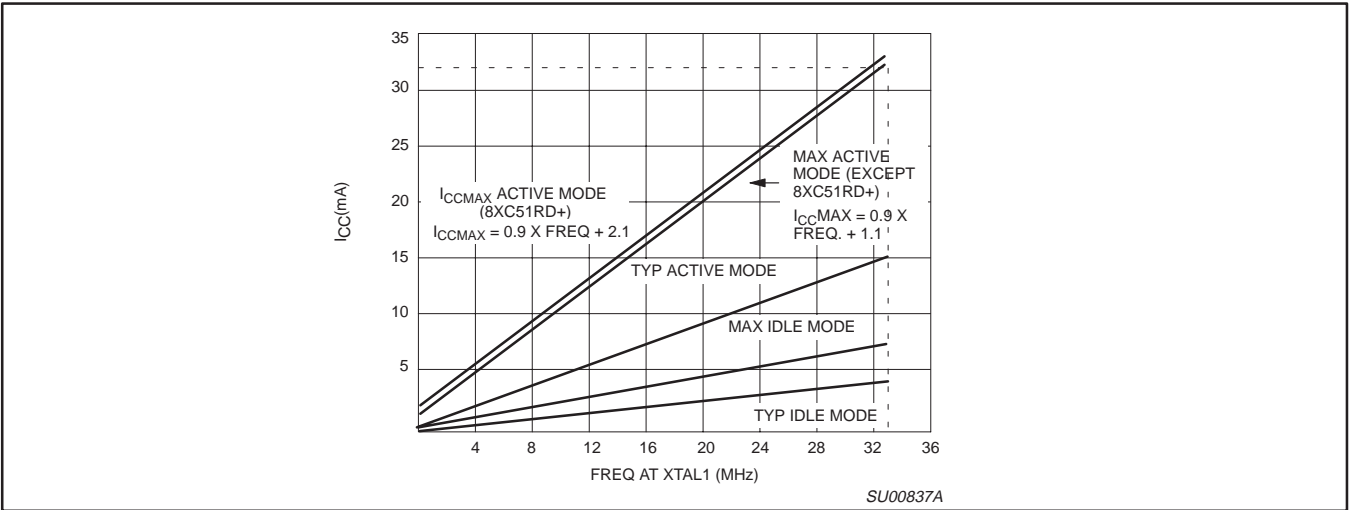
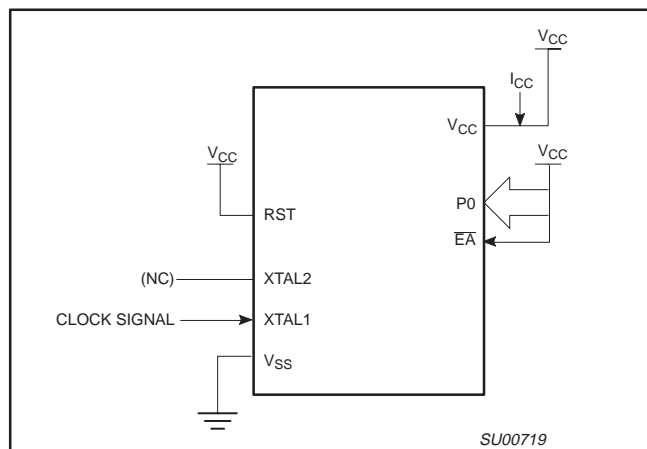

Figure 36. I_{CC} vs. FREQ
Figure 37. I_{CC} Test Condition, Active Mode
- See Figures 37 through 40 for I_{CC} test conditions and Figure 36 for I_{CC} vs Freq.